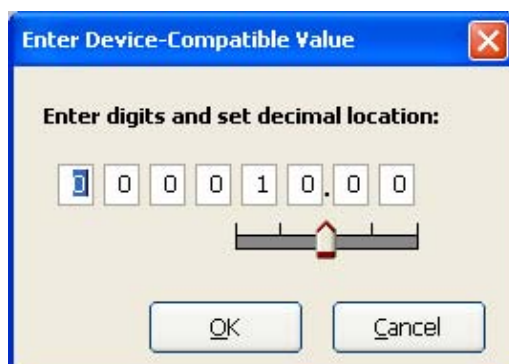

Figure 4.33—Data-entry screen for pulse output scale factor
3. Click on the pencil icon next to the scale field to open a data-entry window (Figure 4.33, page 74), and enter the scale factor. Adjust the decimal position, if necessary, using the slide bar. The scale factor sets the volume increment that will cause a pulse output to occur. The unit for this factor is determined by the unit set for the volume display.